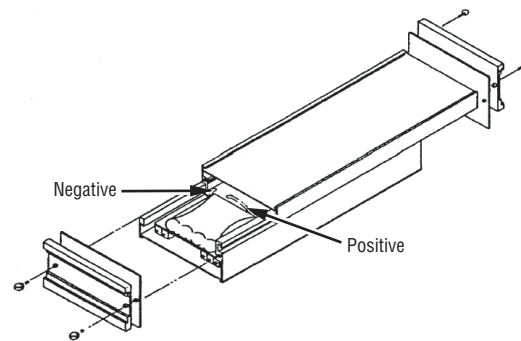

Figure 4-1. Instrument Case Disassembly
1. Remove the four screws that secure the top and bottom plates of the instrument case (see Figure 4-1 below).